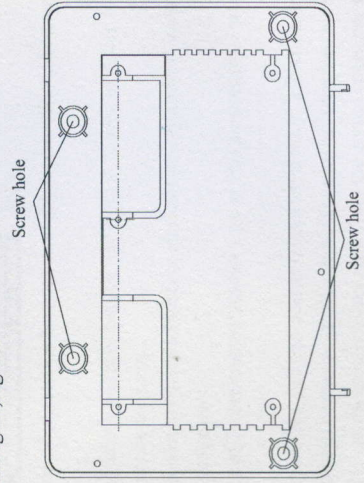
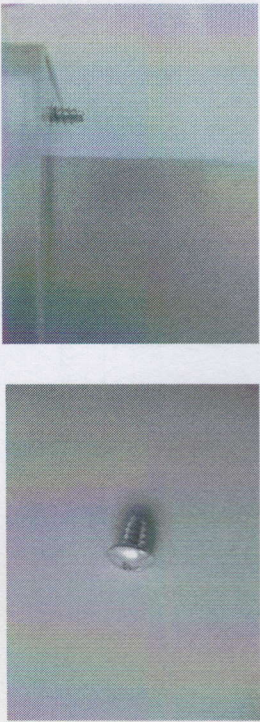

Fig. 24
Fig. 25
e. Connect the electric box cover and lower cabinet with ST4.2X9.5 TC screws (Phillips brazier-head anti-slip screws), as shown in Fig.24, Fig. 25.